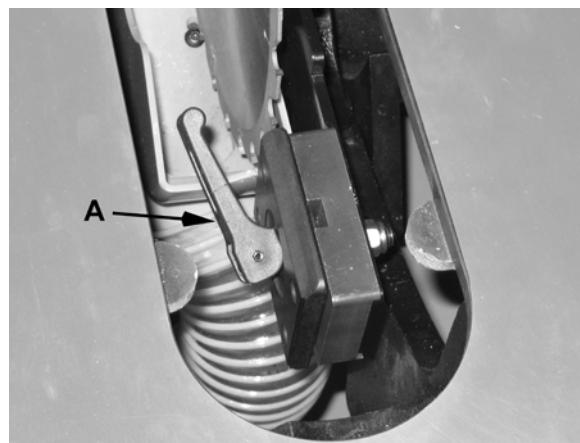
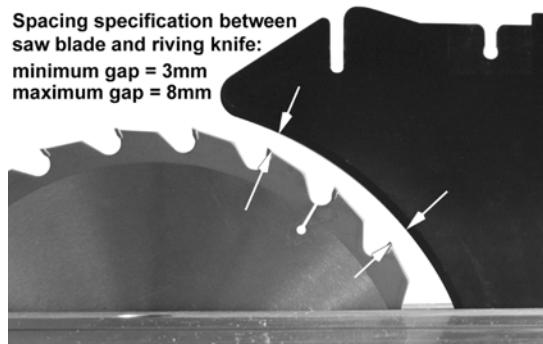

Figure 18
Figure 20
4. Loosen the *lock handle* (A, Fig. 18) and remove the riving knife, making a note as to which direction the riving knife needs to be moved to align it with the saw blade.
Adjust any number of setscrews required to bring the riving knife in alignment with the saw blade. Then reinsert the riving knife, secure by tightening the *lock handle* (A, Fig. 18) and check the alignment per step 2.
**Note:** Position the lock handle *towards* the saw blade as shown in Figure 18. This will avoid the table insert from being lifted when the blade is raised with the handwheel.
The gap between the saw blade and riving knife must be between 3 and 8mm (Figure 20). If adjustment is needed, note whether the blade to knife gap needs to be increased or decreased. Then adjust as follows:
3. Slide the *fixed clamp block* (F) toward or away from the saw blade as required.
4. Tighten the *socket head button screws* (E).
5. Reinsert the *riving knife*; tighten the *lock handle* (A, Fig. 18) and check that the saw blade/knife gap is between 3 - 8mm (Figure 20).